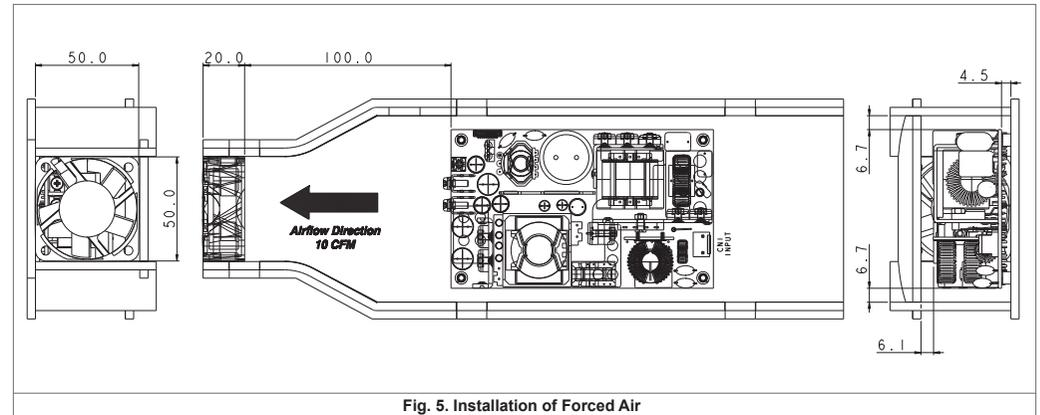

Fig. 5. Installation of Forced Air
6. Installation of Forced Air (Refer to Fig. 5)
► To ensure sufficient air flow, always maintain a distance and air flow direction as recommended in Fig. 5. while the device is in operation.
6. 安装强制通风 (参见图5)
▶ 电源运行时应始终留出空间以确保充足通风, 通风方向参照图5建议。